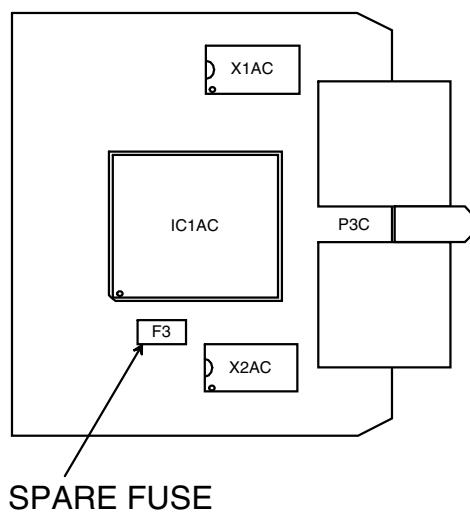

Figure 32. Spare fuse
- **T55249.20 FIU 19 4xRJ-45 Aux Card Cable 15m** contains four RJ-45 15 m cables with open end (8 pins connected, see Figure 32 for specifications).